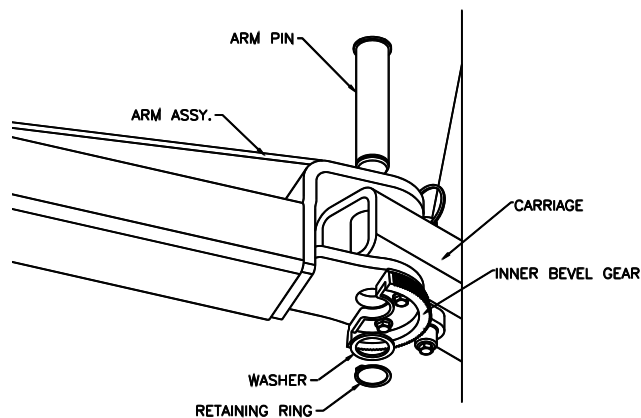

Fig 24 –Arm Pin Keeper Install
- 84) Install the provided retaining ring onto the pin with tool, **Fig 24.**